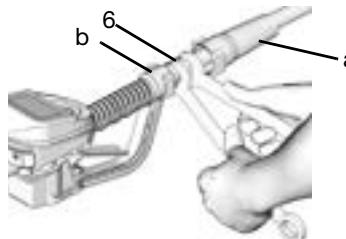

FIG. 9
2. Slide the swivel boot (a) back, over the hose, small end first to access the swivel fitting (6) (FIG. 9).
3. Apply thread sealant to the male threads of the hose fitting. Thread the hose fitting (b) into the metered dispense valve swivel (6). Use two wrenches to tighten securely (FIG. 9).